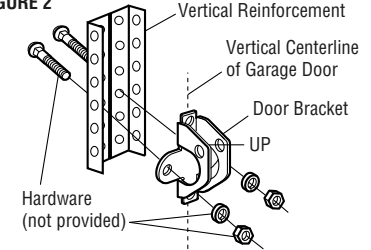

FIGURE 3
1. Drill 3/16" fastening holes. Secure door bracket using self-threading screws. (Figure 3)